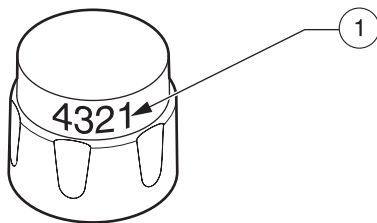

Figure 2 Sensor Cap
9. Verify that the lot code printed on the new iButton matches the lot code on the new sensor cap (Figure 2).